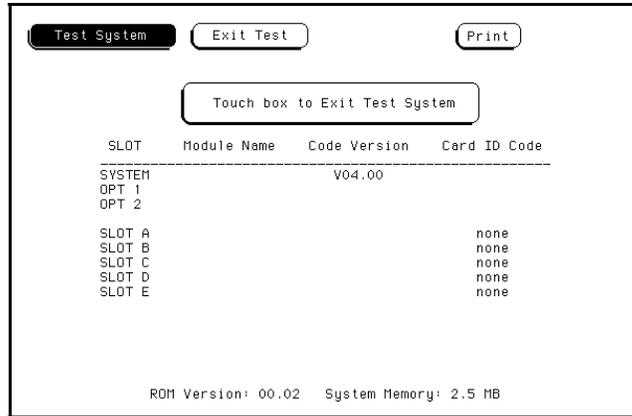

Figure 4-9. Exiting Test System Configuration
9. Touch the **Configuration** field, then touch **Exit Test**. Install the operating system disk into one of the disk drives, then touch the field close to the center of the screen to reload the mainframe operating system. See figure 4-9.